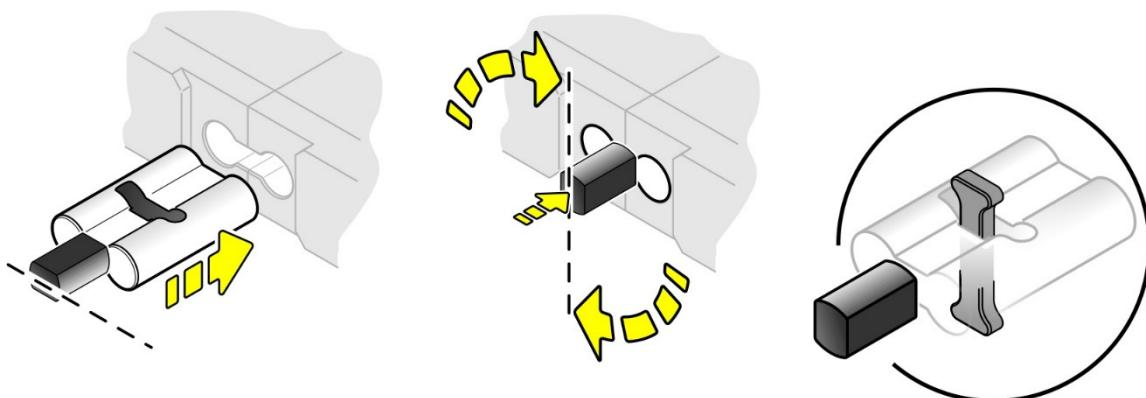
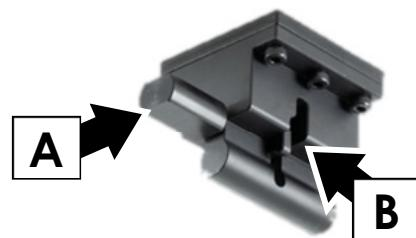

Figure 20. Locking mechanism on KNV Line mechanical connectors
Figure 24. KNV Rigging Connector lock
- To lock a connector, see Figure 20. Push the connector into the channels in fixtures and twist the connector knob 90° clockwise to lock.
2. See Figure 24 on page 39. Push the KNV Rigging Connector into one of the channels on the KNV Line, push and twist the Connector knob **A** 90° clockwise so that the latch **B** locks the Connector into the channel, then release the knob **A** and check that the Connector is locked into the channel. The Rigging Connector mechanism is similar to the Module Connector mechanism shown in Figure 20 on page 35.
3. See Figure 24. Push the KNV Rigging Connector into one of the connection channels on the ends or sides of the KNV Line, push and twist the Connector knob **A** 90° clockwise so that the latch **B** locks the Connector into the channel, then release the knob **A** and check that the Connector is locked into the channel. The Rigging Connector mechanism is similar to the Module Connector mechanism shown in Figure 20 on page 35.
7. Press the Module Connector locking knob **A** and twist it 90° clockwise so that the latch **B** engages in the channels in both fixtures, then release the locking knob **A** and check that the fixtures are locked securely together. This procedure is shown in Figure 20 on page 35.